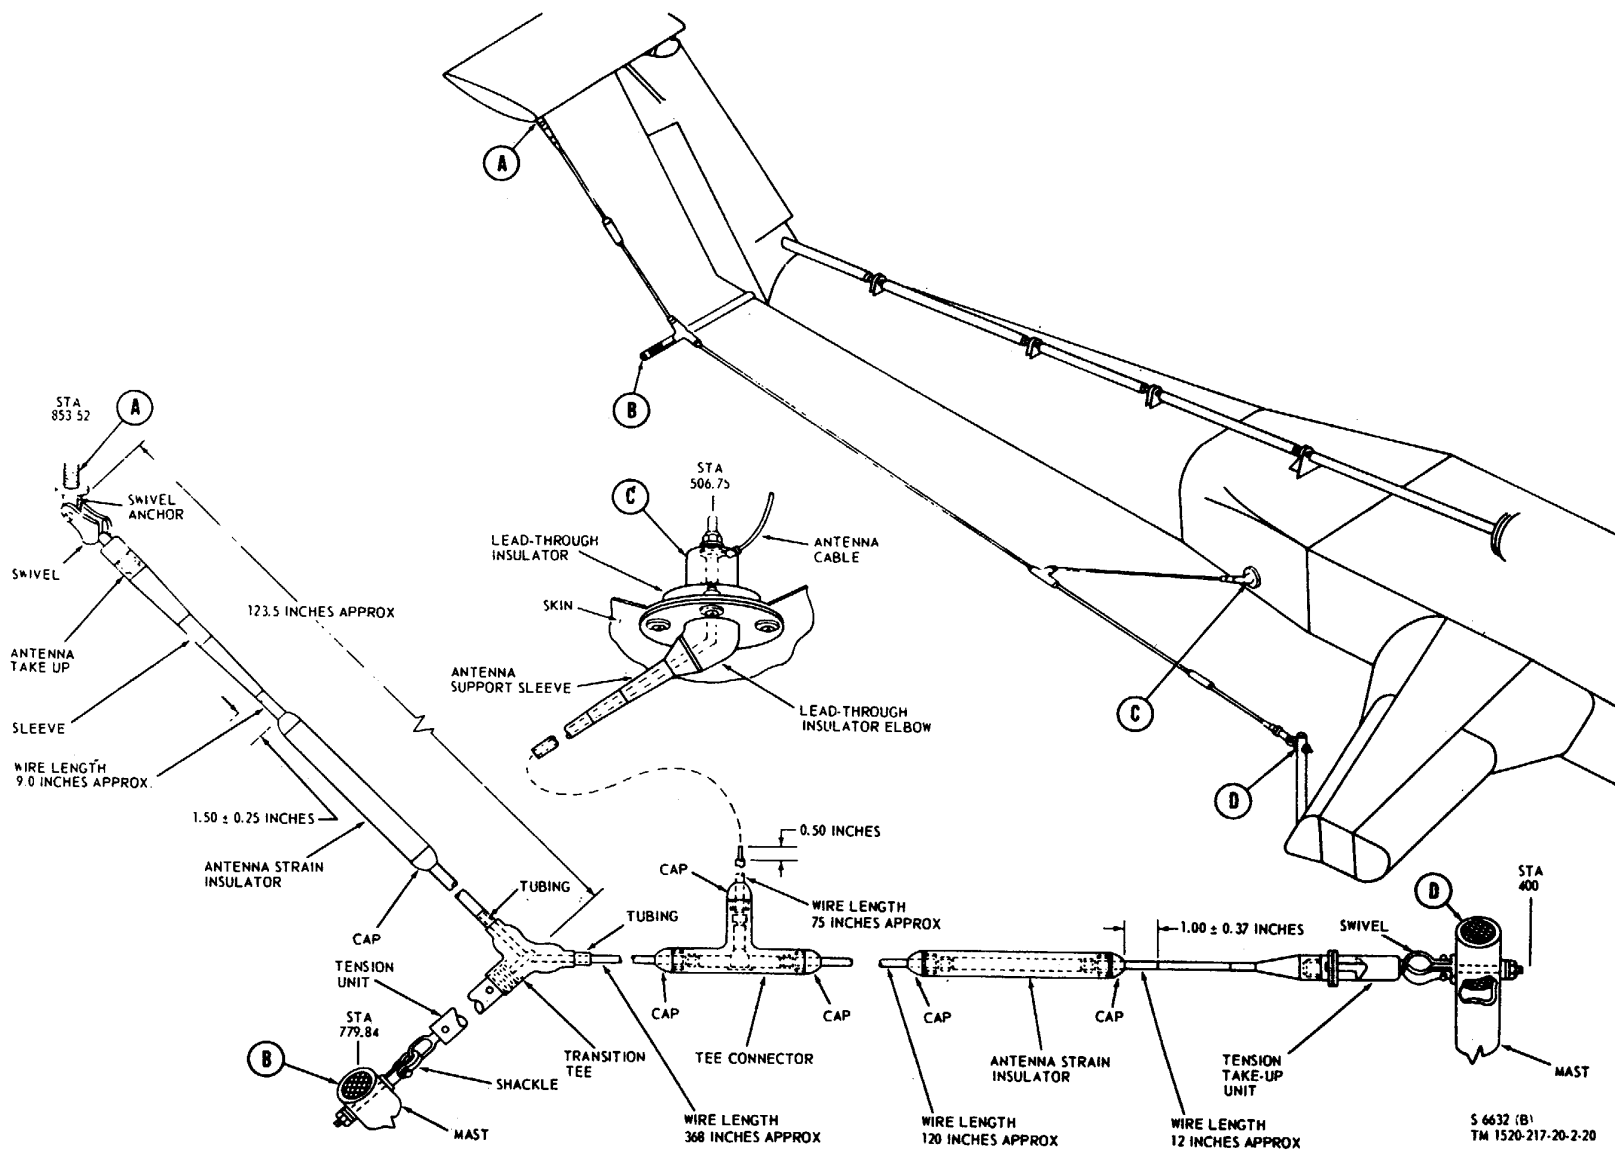

Figure 2-15. Hf radio antenna Installation.
b. *Replacement of HF Wire Antenna* (figs. 2-15 and 2-16).
(1) Replace any worn or defective components. Clean reused detail parts with trichloroethane.
(2) Cut wire for segment between antenna takeup and strain insulator to required length.